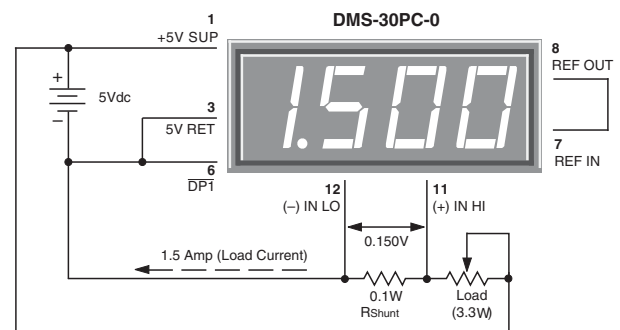

Figure 9. Basic DC Ammeter Circuit
7. Digital Ammeter: Digital ammeters are finding ever-increasing usage because analog-style ammeters (moving-vane types) now cost roughly the same as their digital counterparts. Additionally, analog ammeters are not nearly as rugged as modern digital panel voltmeters. Figure 9 illustrates a typical ammeter application. The circuit uses a ± 200 mV input meter